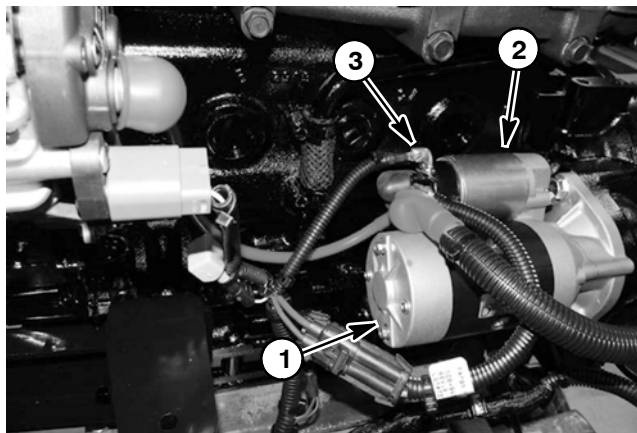

Figure 61
**NOTE:** A blue wire connects to the starter motor solenoid B+ terminal (Fig. 61). It is not necessary to remove this blue wire from the solenoid terminal for hydraulic pump priming.
4. Engage remote starter switch and crank starter for thirty (30) seconds to prime hydraulic pumps. Wait thirty (30) seconds to allow the starter motor and starter solenoid to cool. Repeat cranking procedure a second time.